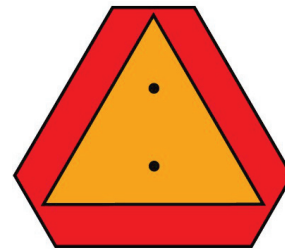

Figure 3-2: SMV Sign
- Transport during daylight hours when ever possible. Always use flashing warning lights, except where such use is prohibited by law. Make sure lights, reflectors and SMV emblem are clearly visible and operating. Remove any obstructions such as dirt, mud, stalks or residue that restricts view before transporting. **See Figure 3-2.**